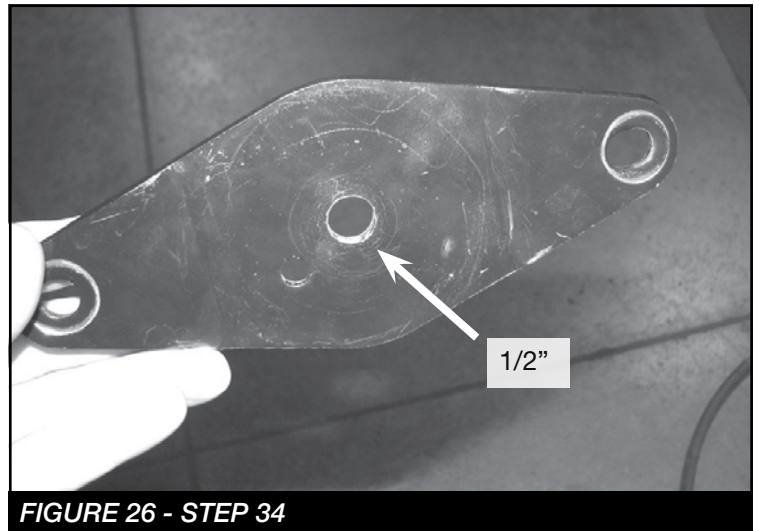

FIGURE 26 - STEP 34
34. Using a 1/2" drill bit. Drill out the center hole on the factory bumpstop mounting plate. **SEE FIGURE 26**